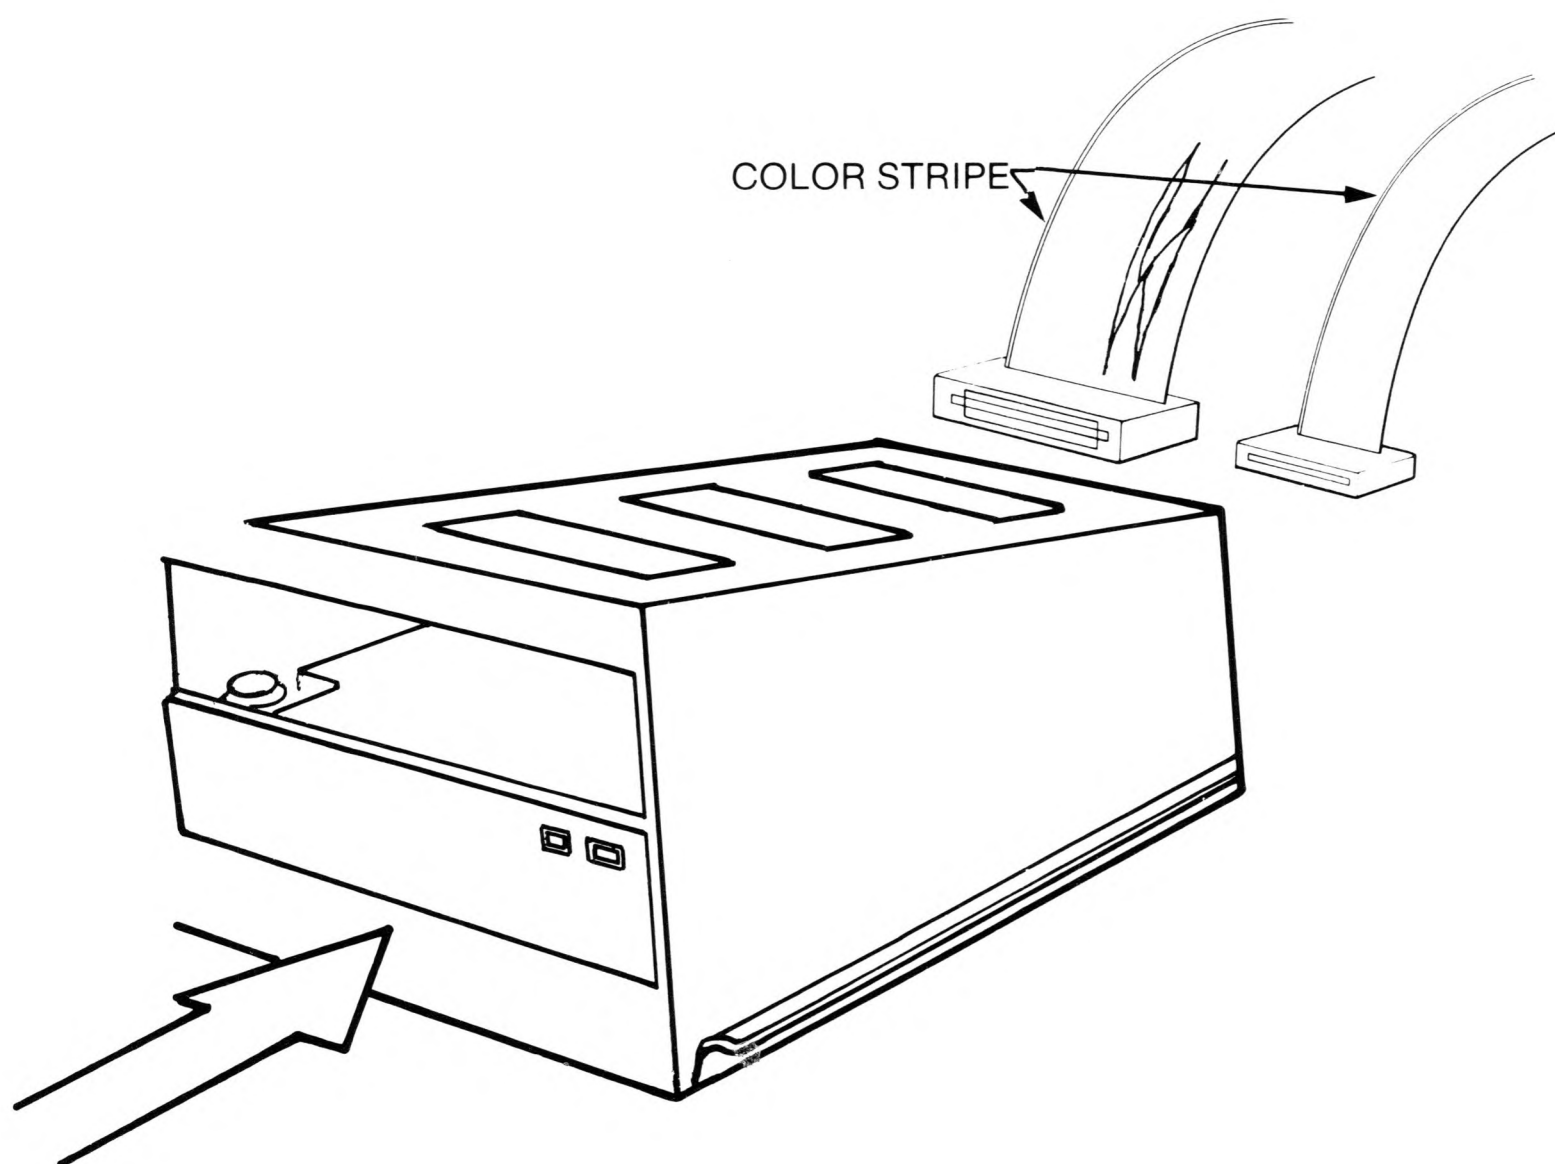

Figure 47: Installing the hard disk drive
7. Slide the hard disk into the drive space with the metal cover face up. Connect the hard disk cables attached to the drive connectors (34-pin and 20-pin) to the hard disk as shown in Figure 47. The colored stripe on the cables should be on the left side as you face the front of the drive.